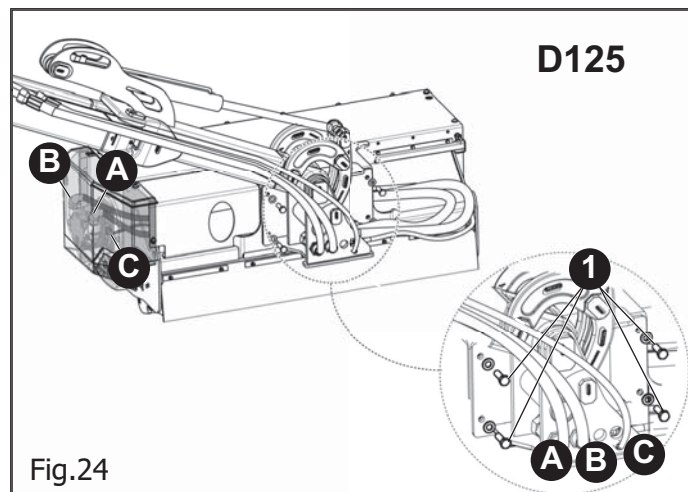
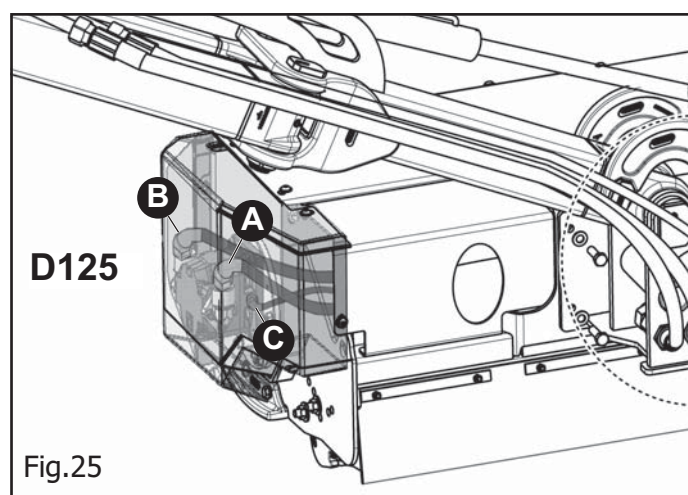
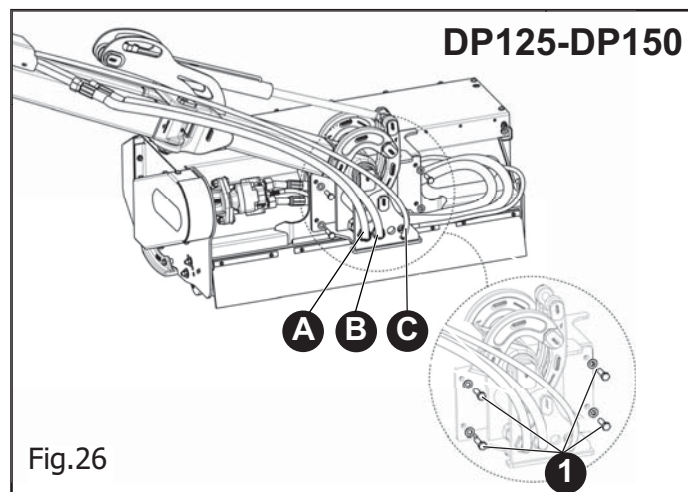

Fig.24
Fig.25
Fig.26
- 4) Secure the head with 4 screws (1 Fig.24 **D125** - 1 Fig.26 **DP125-150**) and relative grower washers.
- 6) Connect the delivery and discharge flexible pipes (A e B Fig.24 - Fig.25 **D125**; A e B Fig.26, Fig.27 **DP125-150**) to the hydraulic motor after having discharged system pressure via the rotor engagement lever.
- 7) Connect the drainage pipe (C Fig.24, Fig.25 **D125** - Fig.26; C Fig.27 **DP125-150**) to the hydraulic motor.
- 6) Disconnect the pipes (A), (B) and (C) from the hydraulic motor of the head and remove dust and/impurities from them
- 7) To avoid excessive oil leaks, have ready a suitable collection tank and caps for pipes (A), (B) and (C).
- 8) Unscrew the four fastening screws (1 Fig.24, 1 Fig.26).